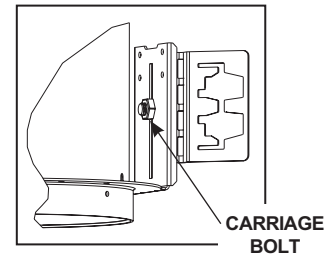

Figure 3
Step 2. Adjust butterfly mounting brackets by loosening the carriage adjustment bolt so bottom of plaster ring is flush with finished ceiling line. Mounting brackets have total vertical adjustment of 3" (Fig. 3).